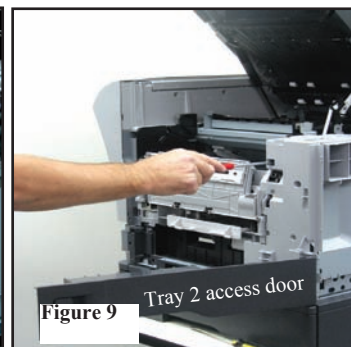
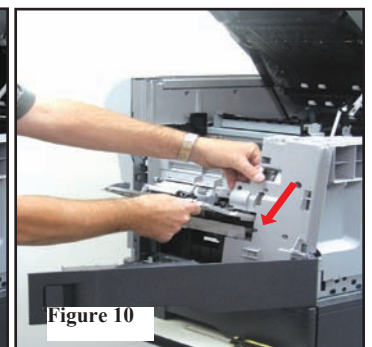

Figure 9
Figure 10
- 11 c. Open tray 2 access door (Figure 9) and remove 6 screws and 2 clips and remove panel (Figure 10).